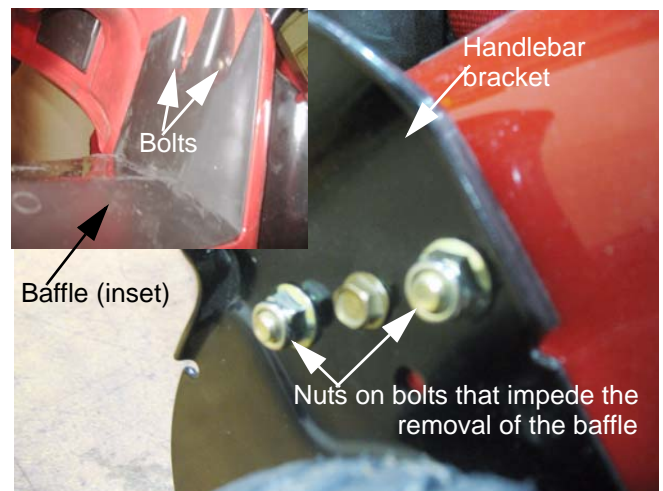

Figure 4.4
- 4b. Remove the two nuts and bolts that hold the right handlebar bracket to the mower deck using a pair of 1/2" wrenches. They do not hold the baffle in place, but they get in the way of its removal. See Figure 4.4.